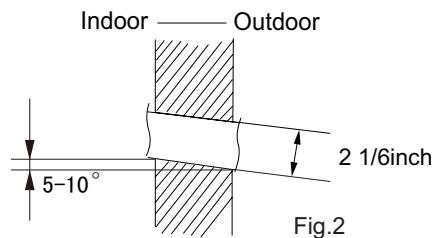

Fig.2
(2) Open a piping hole with the diameter of 2 1/6inch on the selected outlet pipe position.In order to drain smoothly, slant the piping hole on the wall slightly downward to the outdoor side with the gradient of 5-10°.(As show in Fig.2)